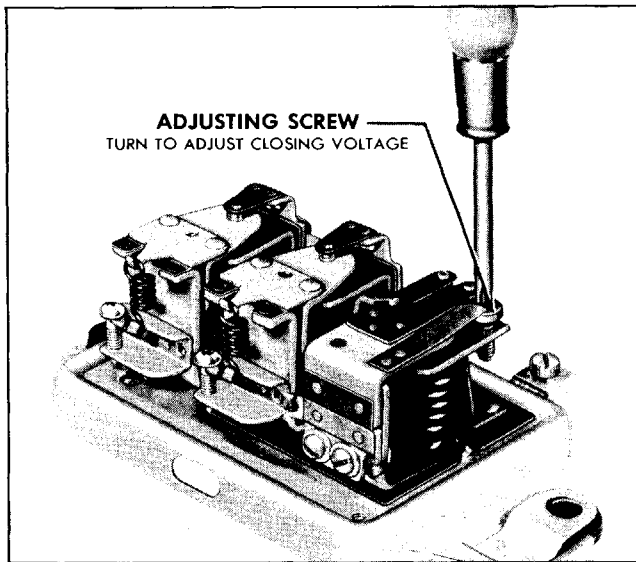

Fig. 12-11 Adjusting Closing Voltage
3. Adjust the closing voltage by turning the adjusting screw (Fig. 12-11). Turn the screw clockwise to increase the setting and counterclockwise to decrease the setting.